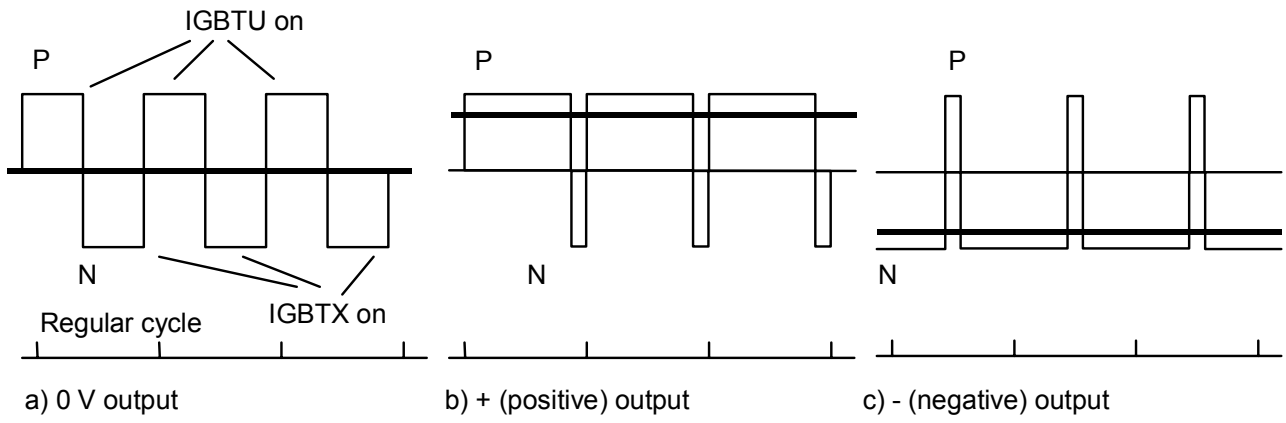

Fig. 5.1.2 Average Output Voltage
- Fig. 5.1.2 shows the waveform of the inverter output voltage (VM), and the IGBTU and IGBTX states.